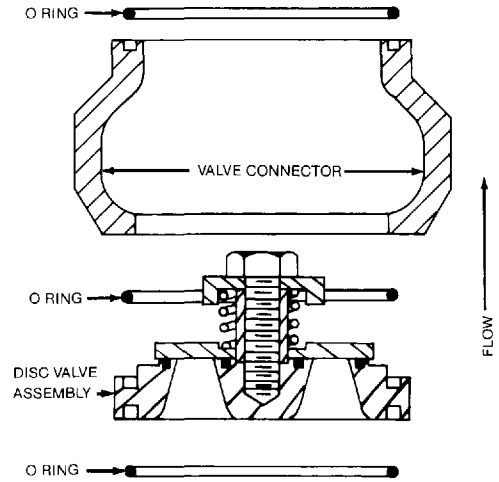
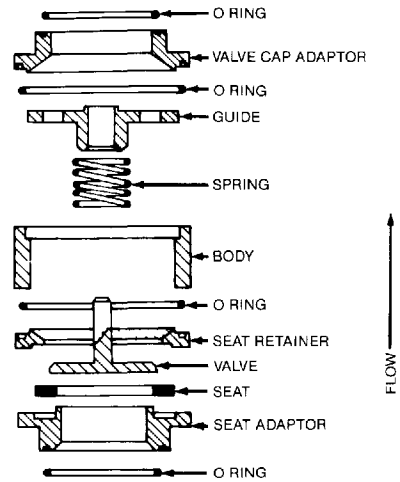
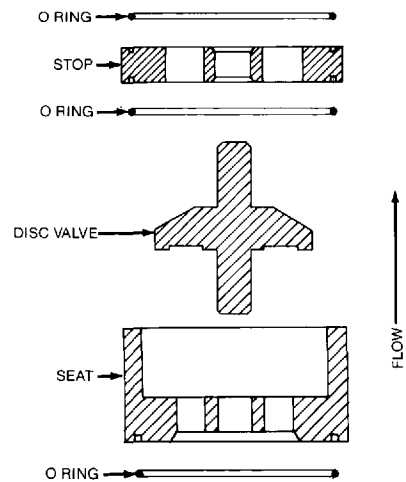

Fig. 36
Fig. 37
Fig. 38
- (c) Disc Valves (Figure 36), for flows over 400 gph. Also available with elastomer seats (Figure 37), and in TFE (Figure 38).